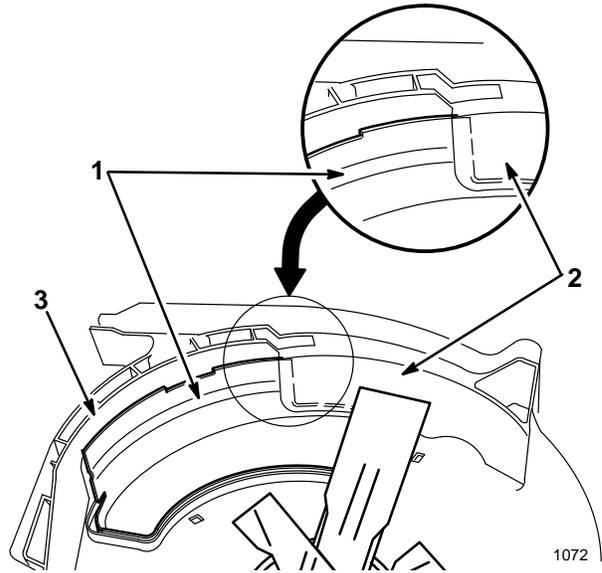

**Figure 38**
- 7. Secure the chute assembly with the wing screw (Fig. 38).